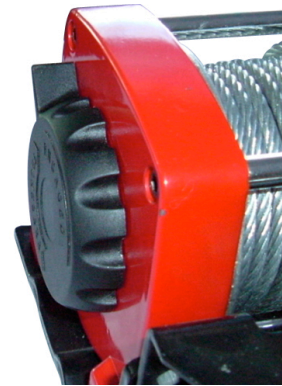

Figure 2b Handwheel Engaged
Re-engage the drum by returning the clutch to the ENGAGED position as shown in Figure 2b.
**CAUTION:** Handwheel knob must be fully in the engaged position as shown in figure 2b before winching. NEVER attempt to free or engage the handwheel knob while the drum is turning.